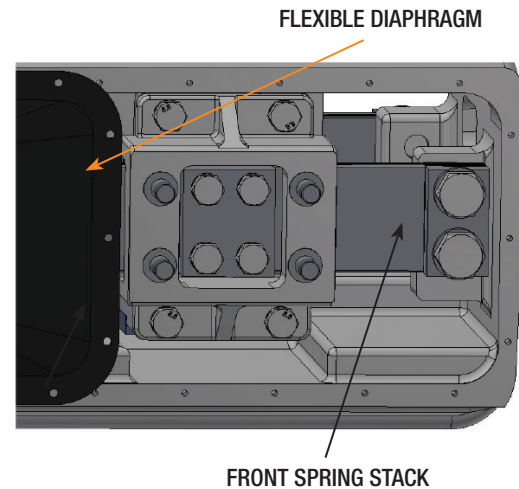

Figure 12
1. Remove diaphragm clamp and rubber diaphragm from front of unit. (**Parts 7 & 8 (See Figure 12)**)